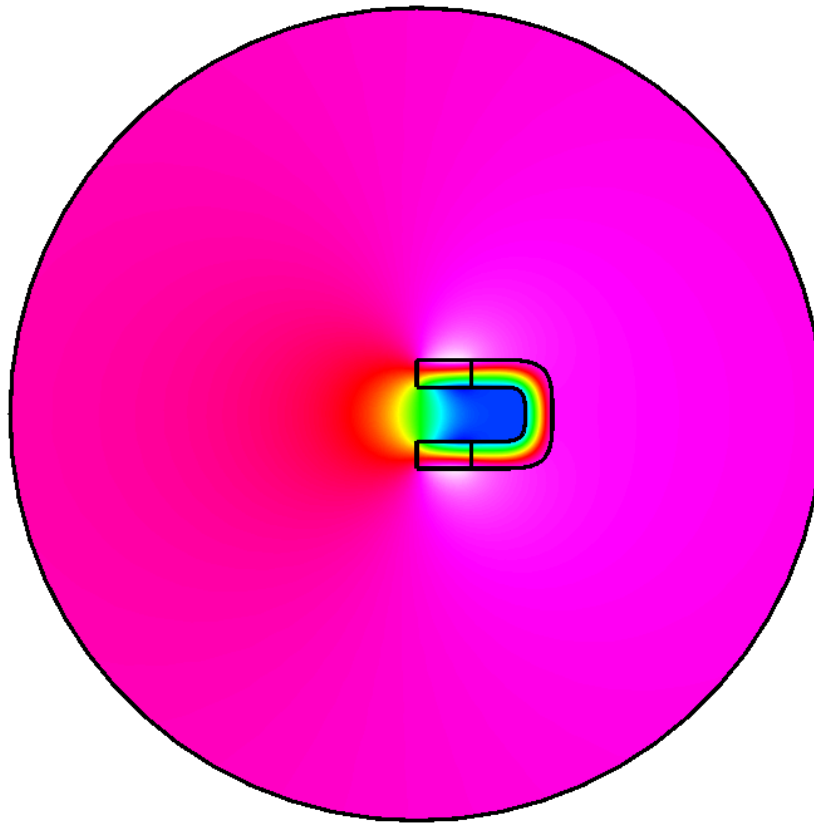

Figure 12.2: The vector potential of the magnetic field.
The resulting z-component of the vector potential is depicted in Figure 12.2. The corresponding postprocessed magnetic field intensity is depicted in Figure 12.3. Note that the derived fields is enforced to be continuous by default which is not optimal for visualization. For optimal results use Discontinuous Galerkin (DG) method for the postprocessing. Note that when using DG the postprocessing should be done with .vtu files and Paraview. The postprocessing tools of Elmer cannot deal with elementwise-fields.